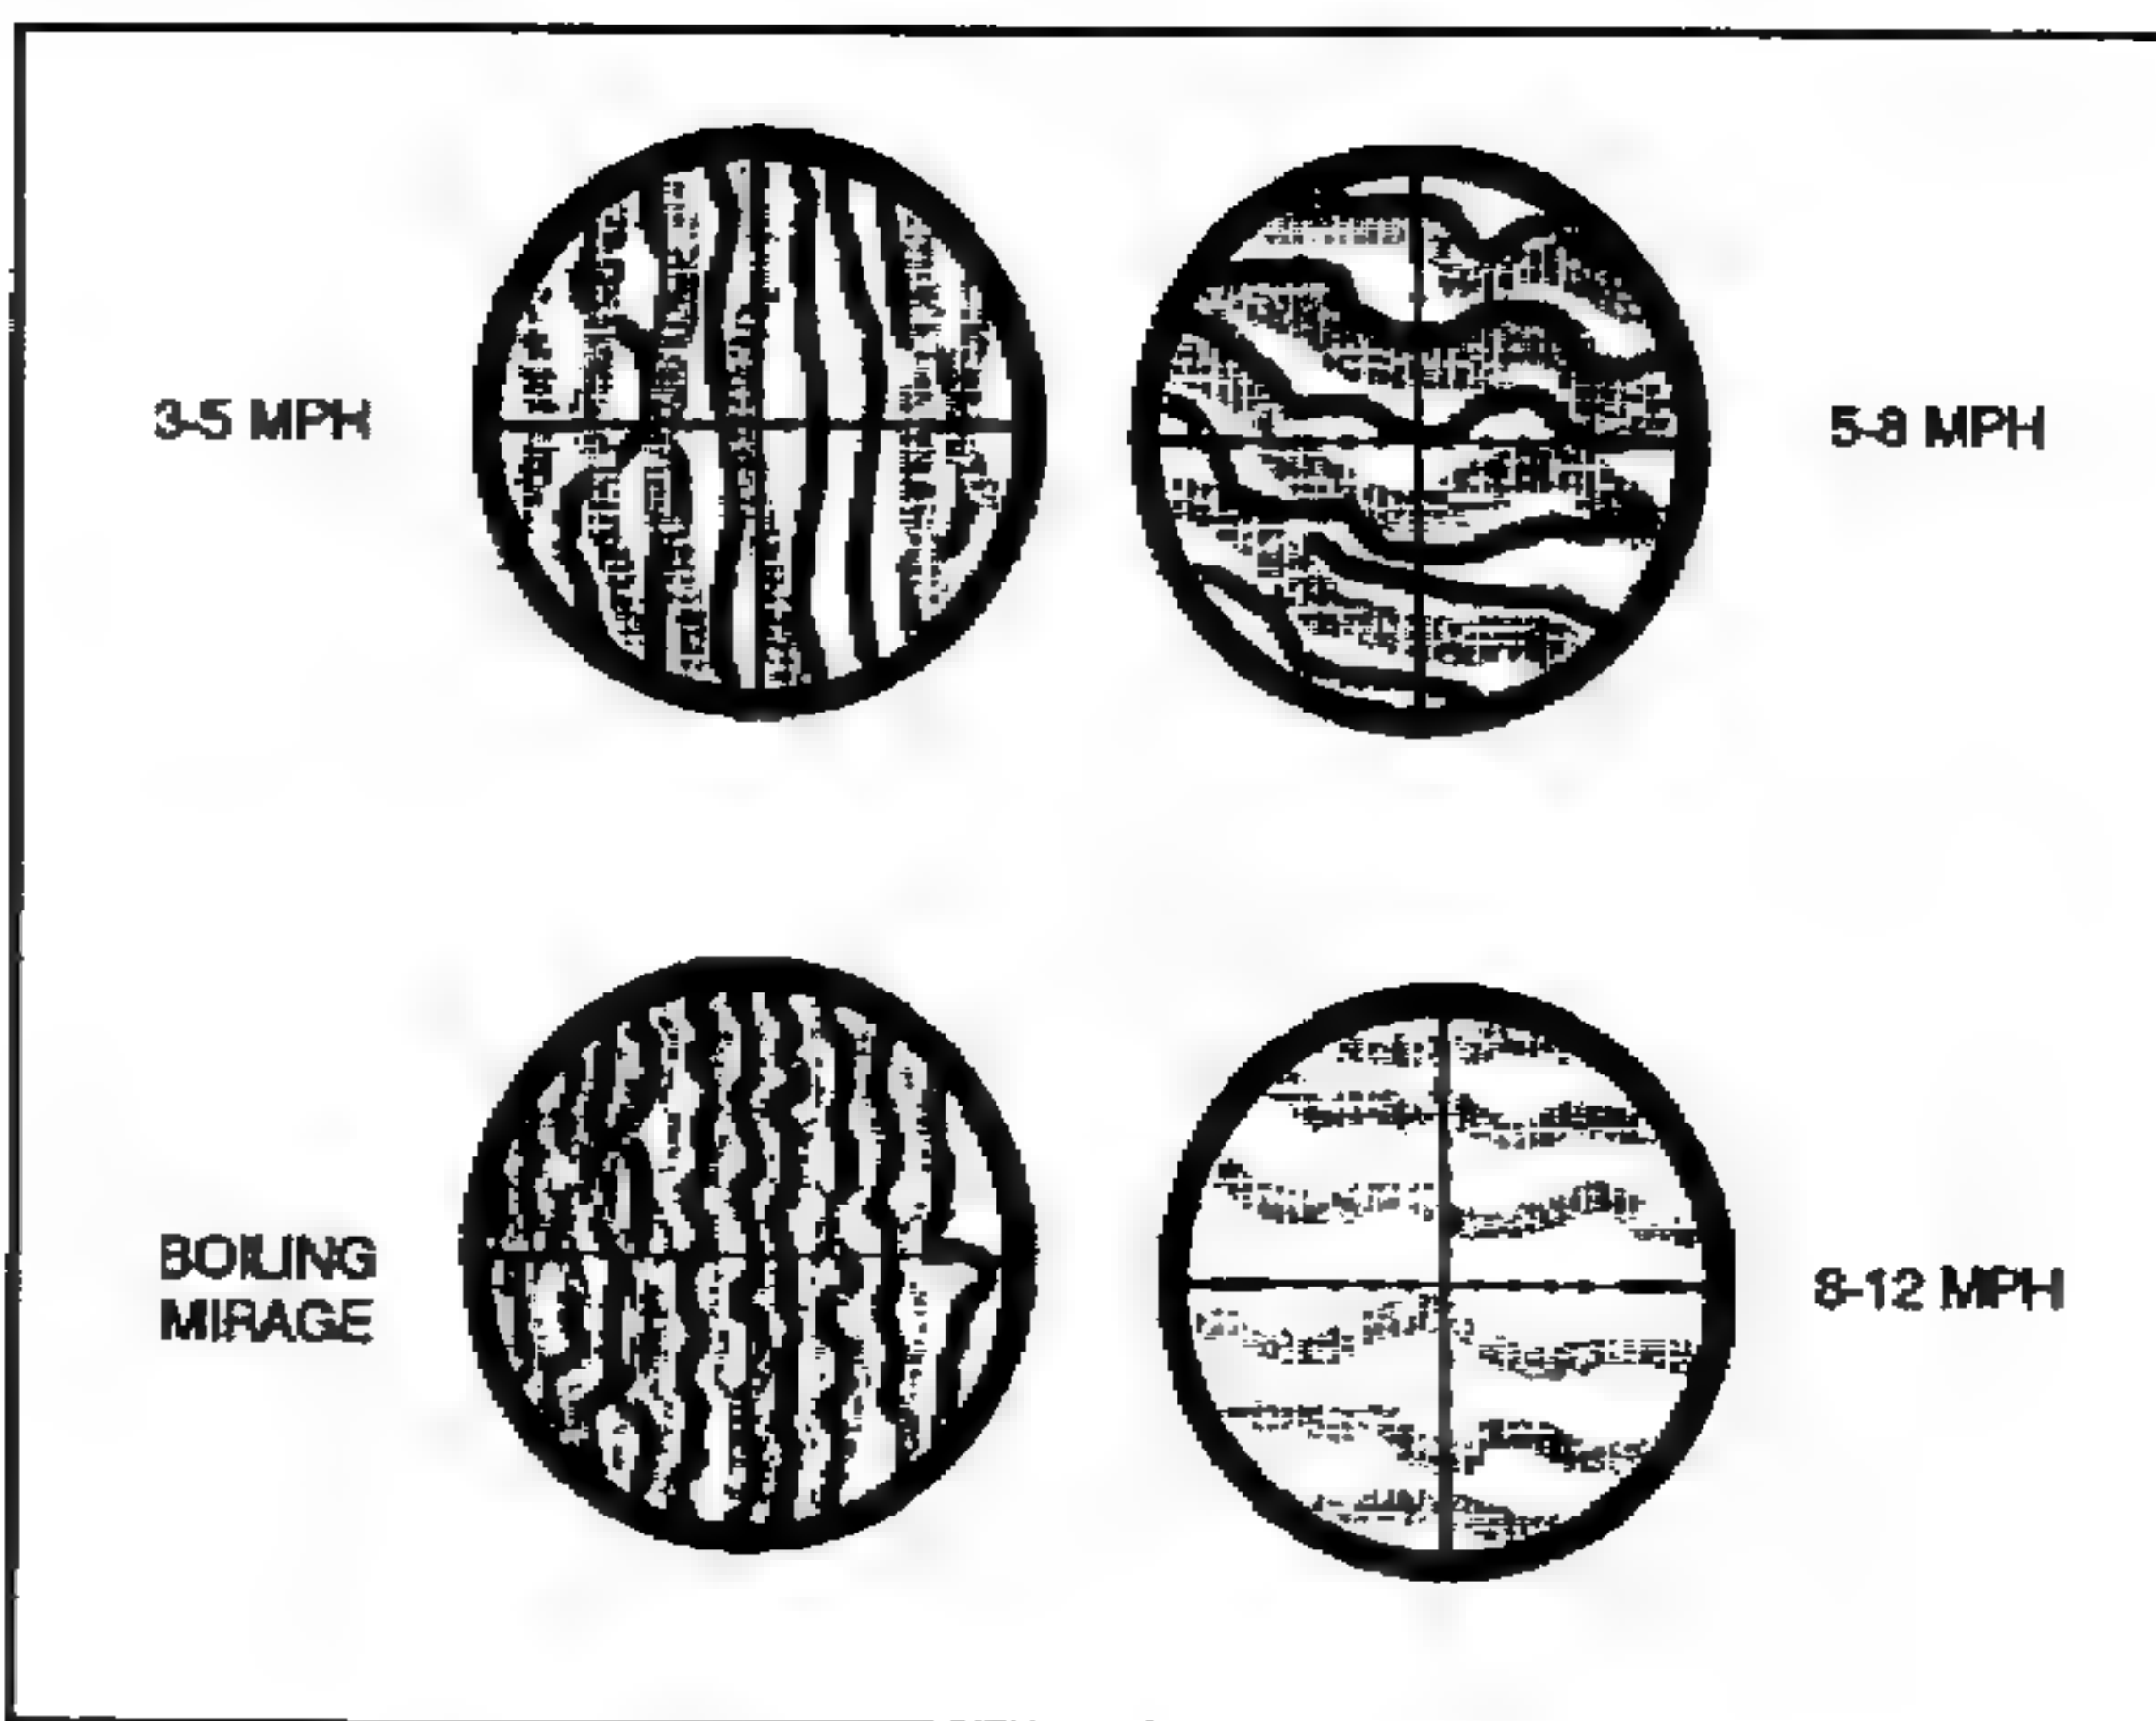

Figure 3-21. Types of mirages.
d. A mirage is a reflection of the heat through layers of air at different temperatures and density as seen on a warm day (Figure 3-21). With the telescope, the sniper can see a mirage as long as there is a difference in ground and air temperatures. Proper reading of the mirage enables the sniper to estimate wind speed and direction with a high degree of accuracy. The sniper uses the M49 observation telescope to read the mirage. Since the wind nearest to midrange has the greatest effect on the bullet, he tries to determine velocity at that point. He can do this in one of two ways:
(1) He focuses on an object at midrange, then places the scope back onto the target without readjusting the focus.
(2) He can also focus on the target, then back off the focus one-quarter turn counterclockwise. This makes the target appear fuzzy, but the mirage will be clear.